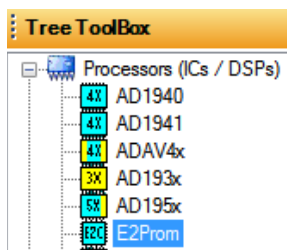

Figure 68. Adding an E2Prom Component
1. Add an IC2 (E2Prom) block to the project space of the **Hardware Configuration** tab from the **Tree ToolBox**. From the **Processors (ICs / DSPs)** folder, click E2Prom (see Figure 68) and drag it to the project space.